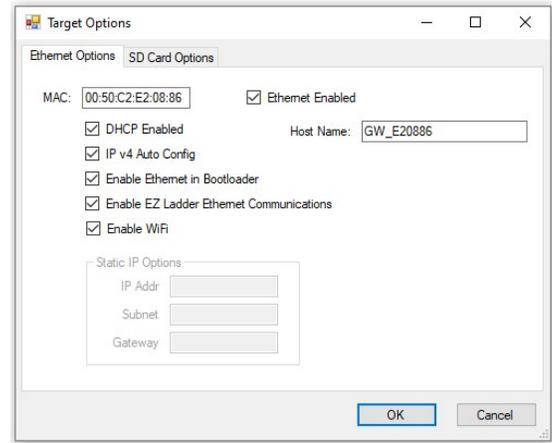

Figure 2.39 - HEC-P2xxx ETHERNET OPTIONS
8. Click the **TARGET OPTIONS** button. The Target Options window will open. There will be two tabs in this window. Click the **ETHERNET OPTIONS** tab. See Figure 2.39.